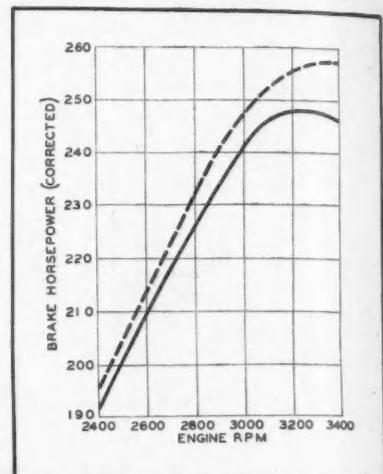

Fig. 14. Test curves show increased hp with fuel injector.
6. Increased horsepower since engines can be operated with higher average cylinder head temperatures, higher absolute manifold pressure and with a cooler induction system (see Fig. 14). Good full throttle operation is obtained